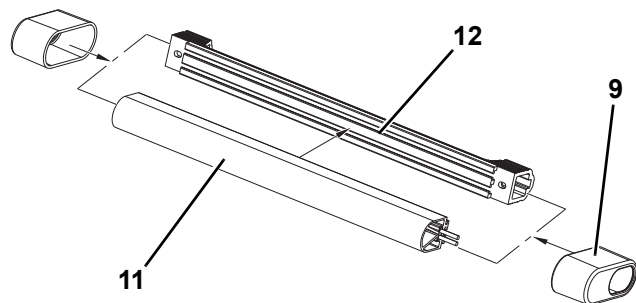

Figure 4-42.
2. Align and attach Platform Sensor Mount (12) onto the SkyGuard Switch (11) as shown in Figure 4-42.
3. Attach Platform Sensor Covers (9) to SkyGuard switch assembly at both ends. See Figure 4-42.